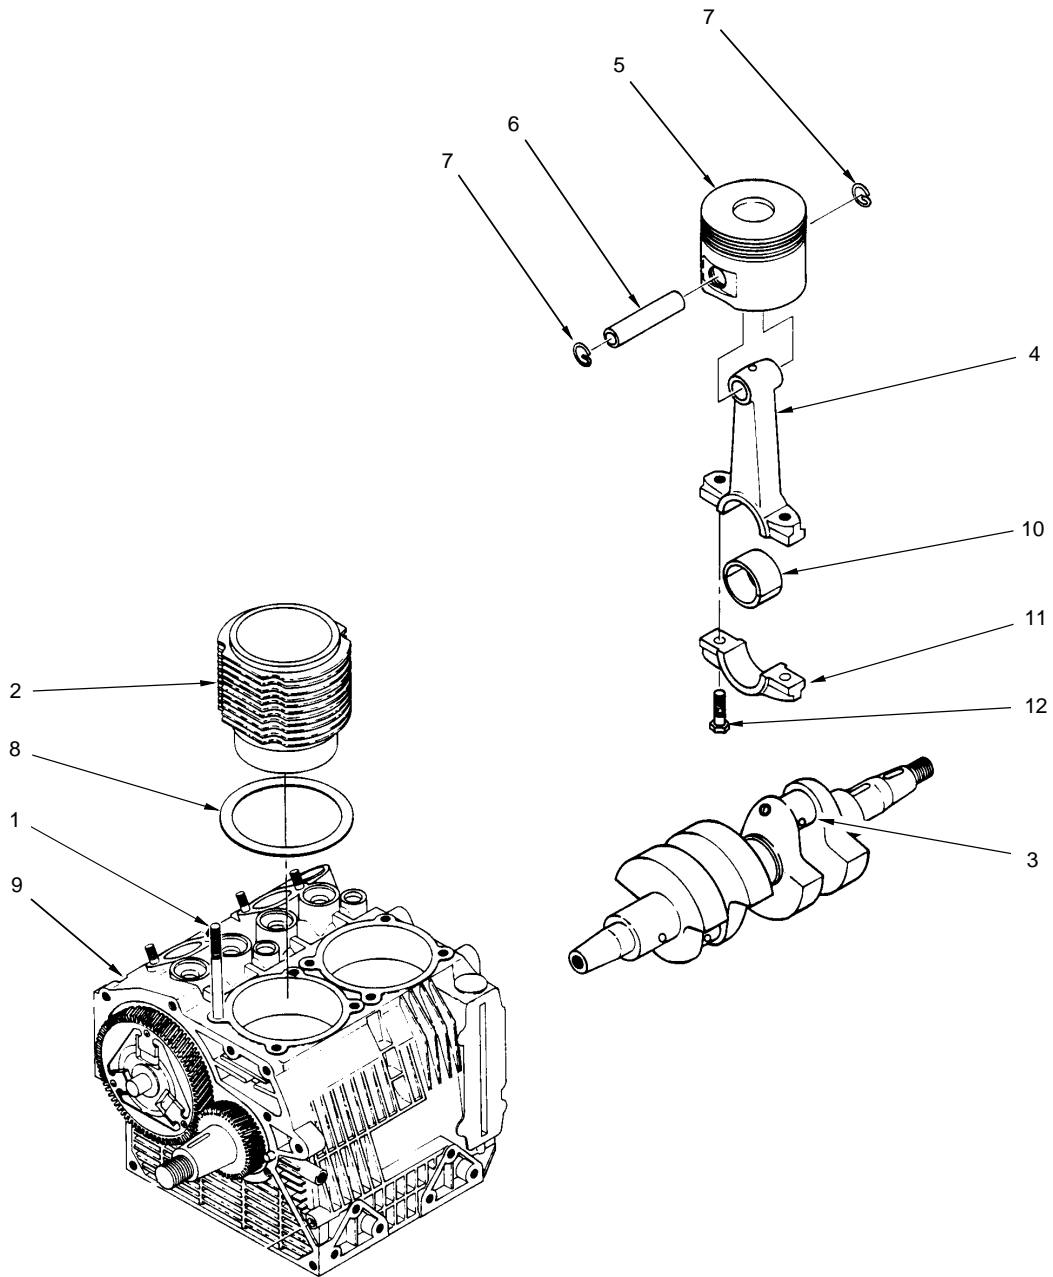

Figure 7. Piston Assembly Installation
**INSTALL PISTON ASSEMBLY AND CYLINDER** (Refer to Figure 7.)